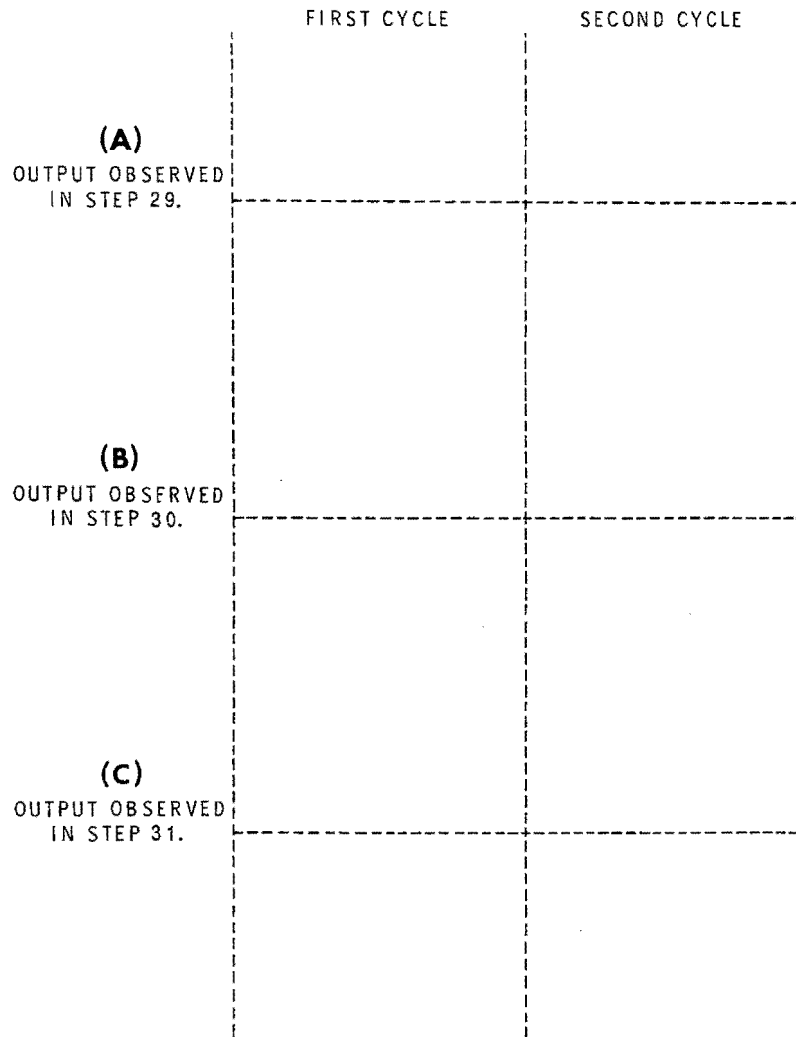
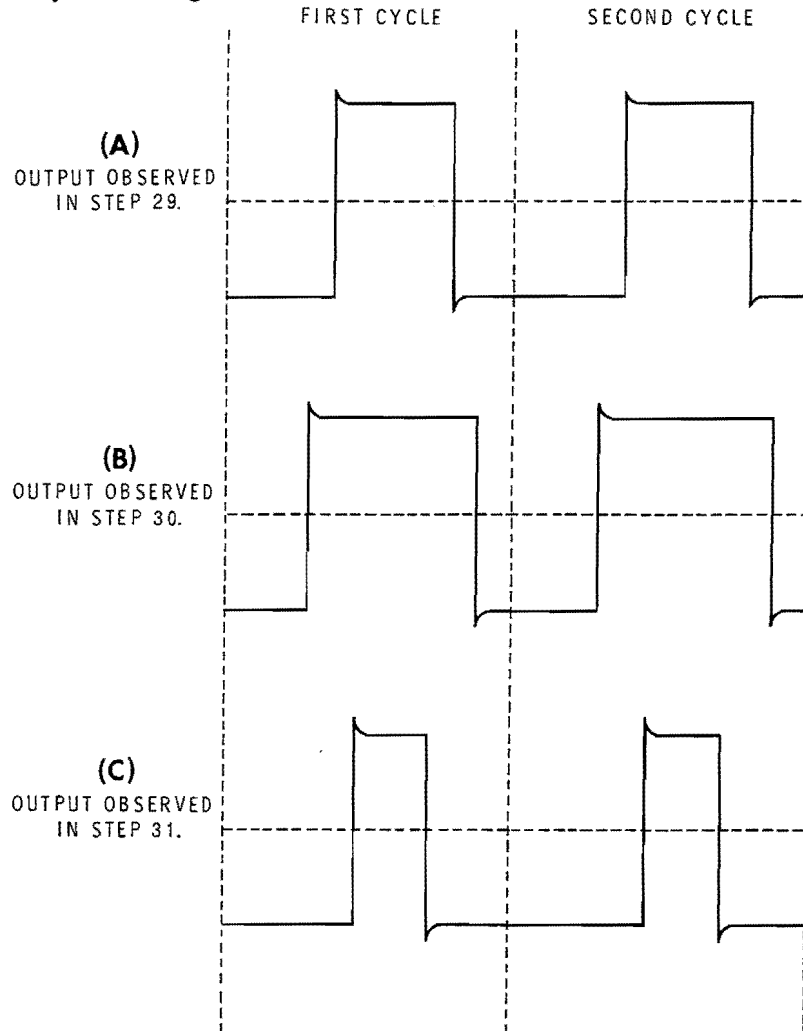

Figure 3-33
Figure 3-36
32. Compare the three waveforms you have drawn in Figure 3-33. Notice that the width of the positive-going pulse can be readily changed by varying the voltage at pin 3 of the op amp.
You set this reference voltage to +5 volts, +6 volts, and +4 volts. You drew the outputs for each of these settings in Figure 3-33. Your waveforms should look like those shown in Figure 3-36. Notice that the width of the positive-going pulse is controlled by the reference voltage.